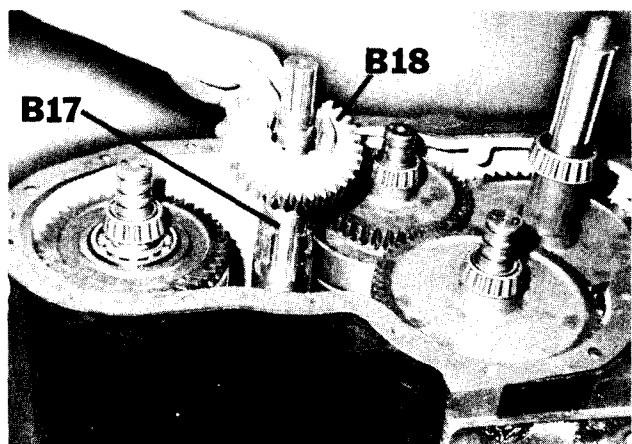

Figure 51A
11. Replace main gasket (M-2) (Figure 51A).